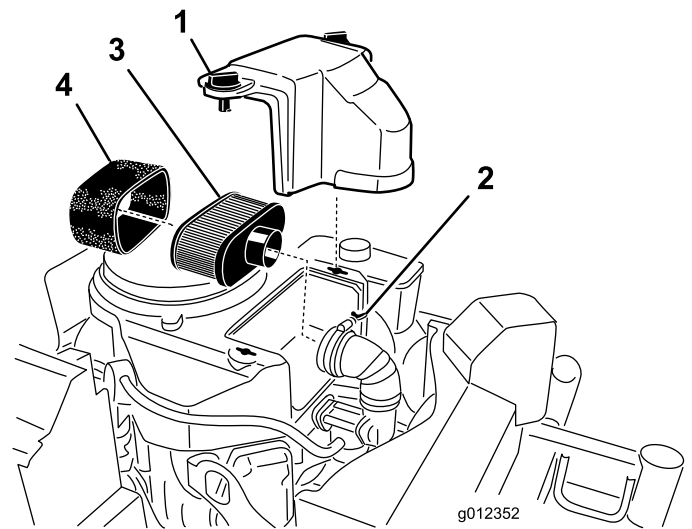

Figure 42
3. Clean around the air cleaner to prevent dirt from getting into the engine and causing damage (Figure 42).
4. Unscrew the cover knobs and remove the air cleaner cover (Figure 42).
5. Unscrew the hose clamp and remove the air cleaner assembly (Figure 42).
6. Carefully pull the foam element off the paper element (Figure 42).